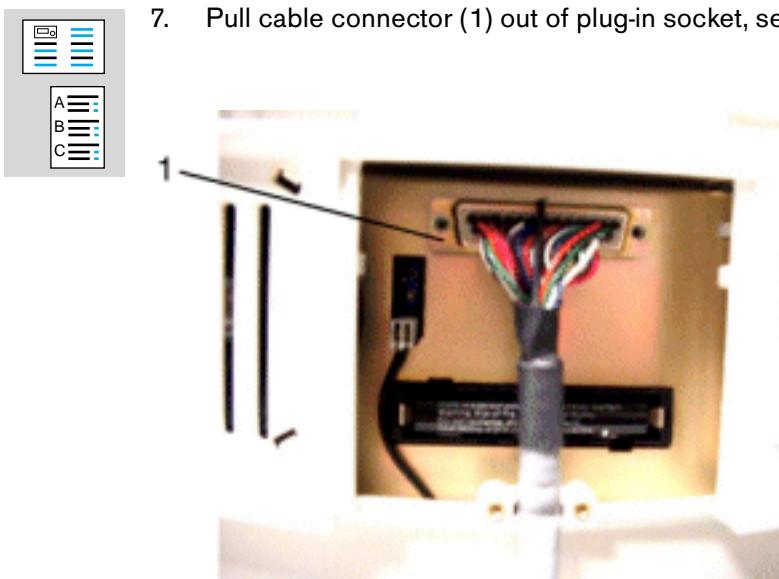

Fig. 95 Rear view of the display housing
7. Pull cable connector (1) out of plug-in socket, see Fig. 95.